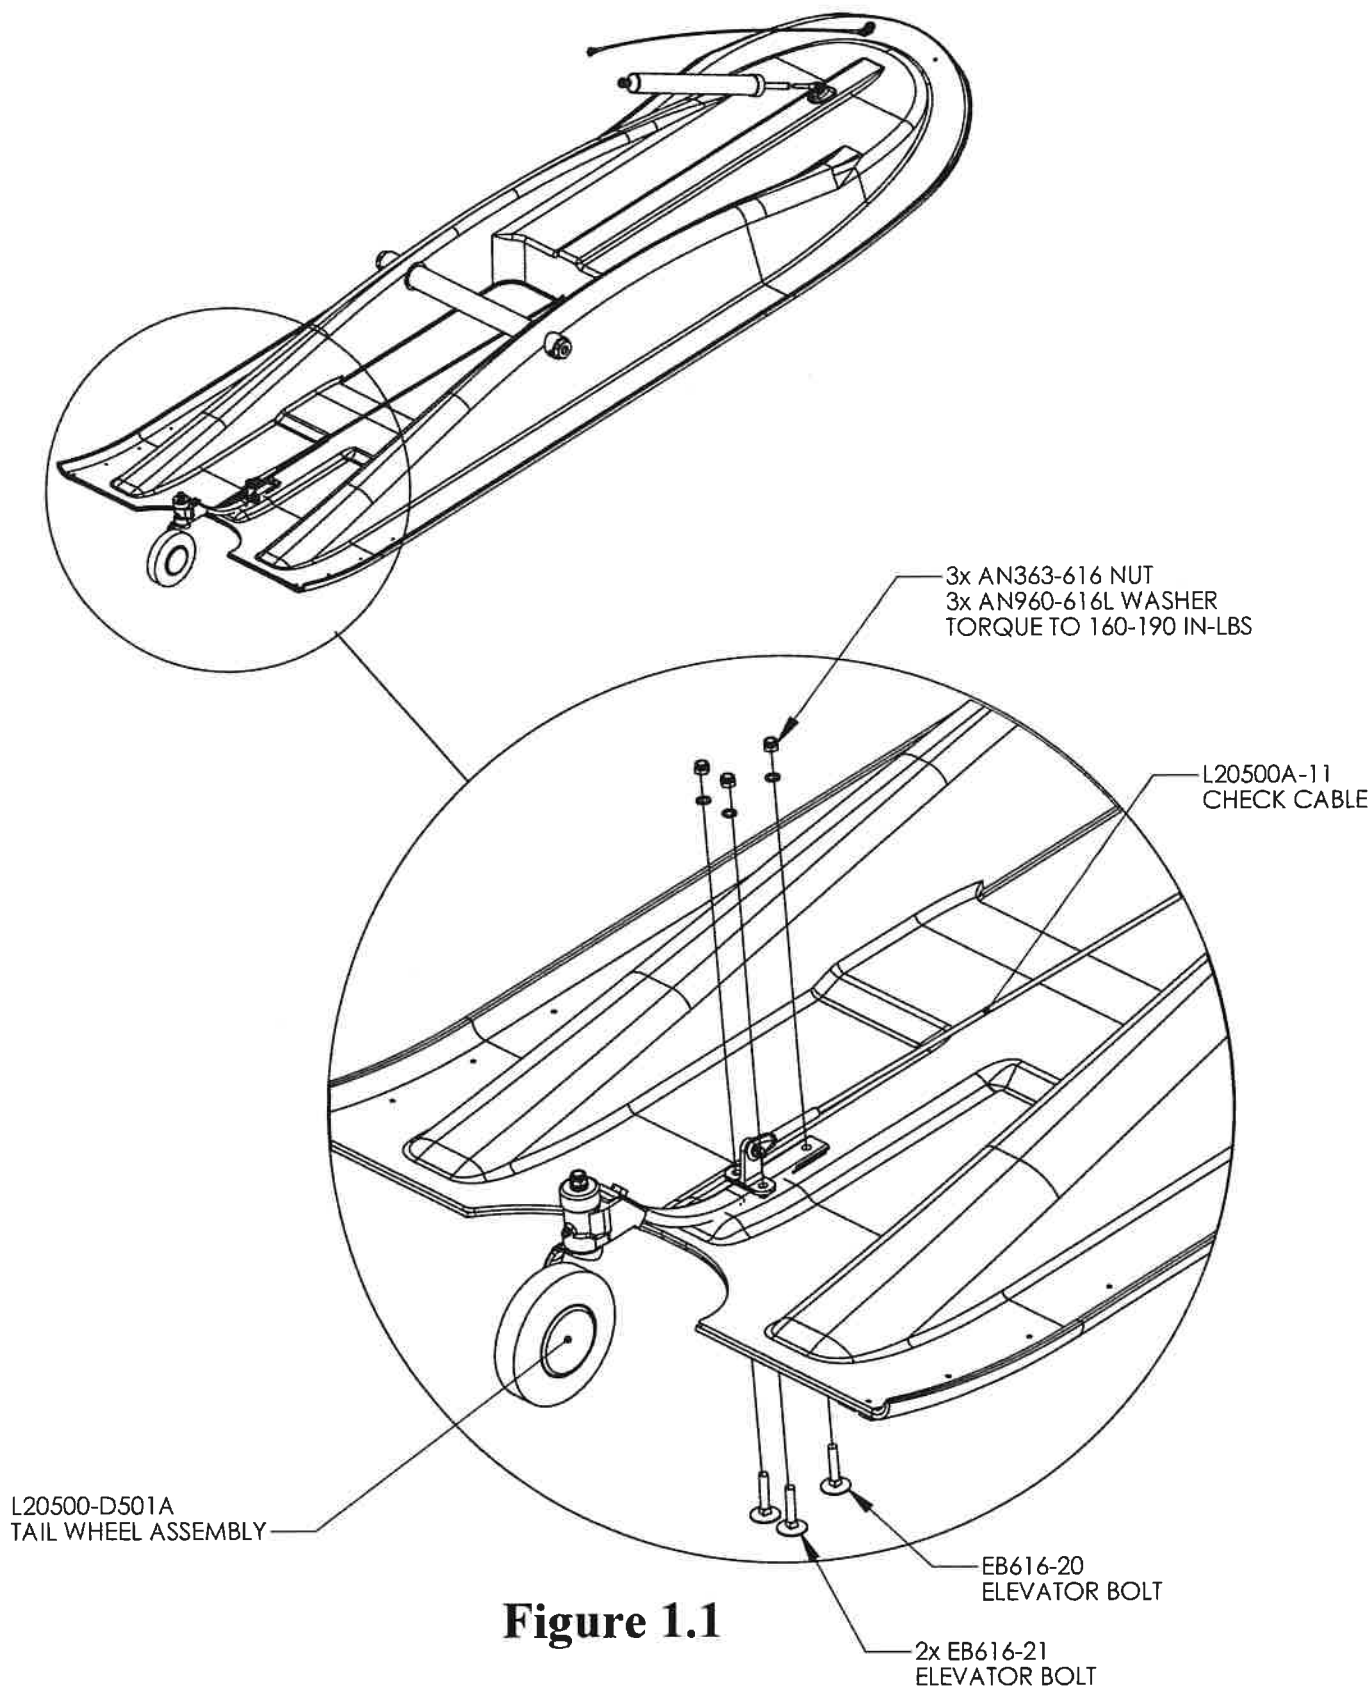

Figure 1.1
6. Remove Tail Wheel Assembly and Check Cable from rear of the Main Ski by removing Elevator Bolts (EB616-20, EB616-21) from the bottom of the ski *See figure 1.1* Save all hardware for future use.
50. Re-Install Tail Wheel Assembly (L20500-D501A) *See Figure 1.1*